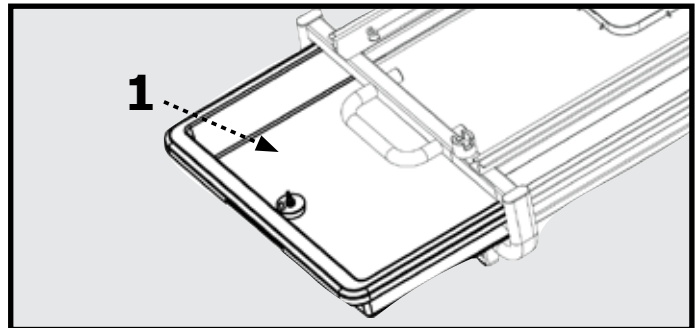

Figure 5
Insert Water Tray (1) by sliding it into the Main Frame (2) as shown in Figure 5.